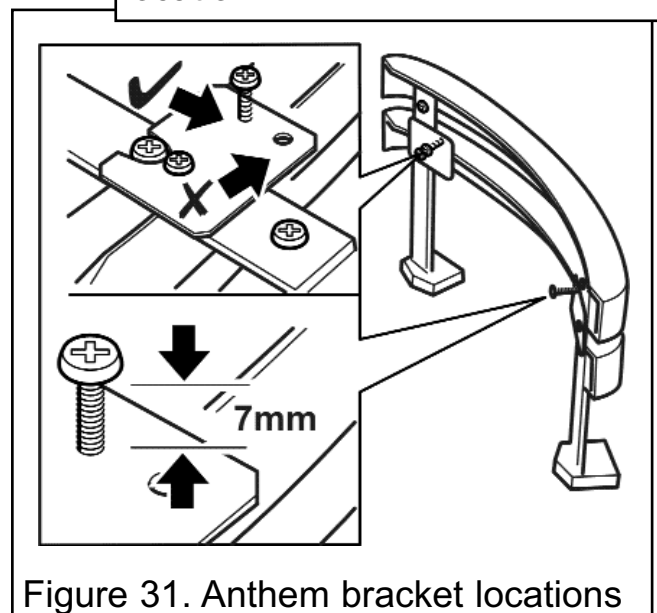

Figure 31. Anthem bracket locations
2. The screw should be set at a distance of 7mm (Measured from the surface of the bracket to the underside of the screw head). Adjust the screw to this distance (See figure 31).